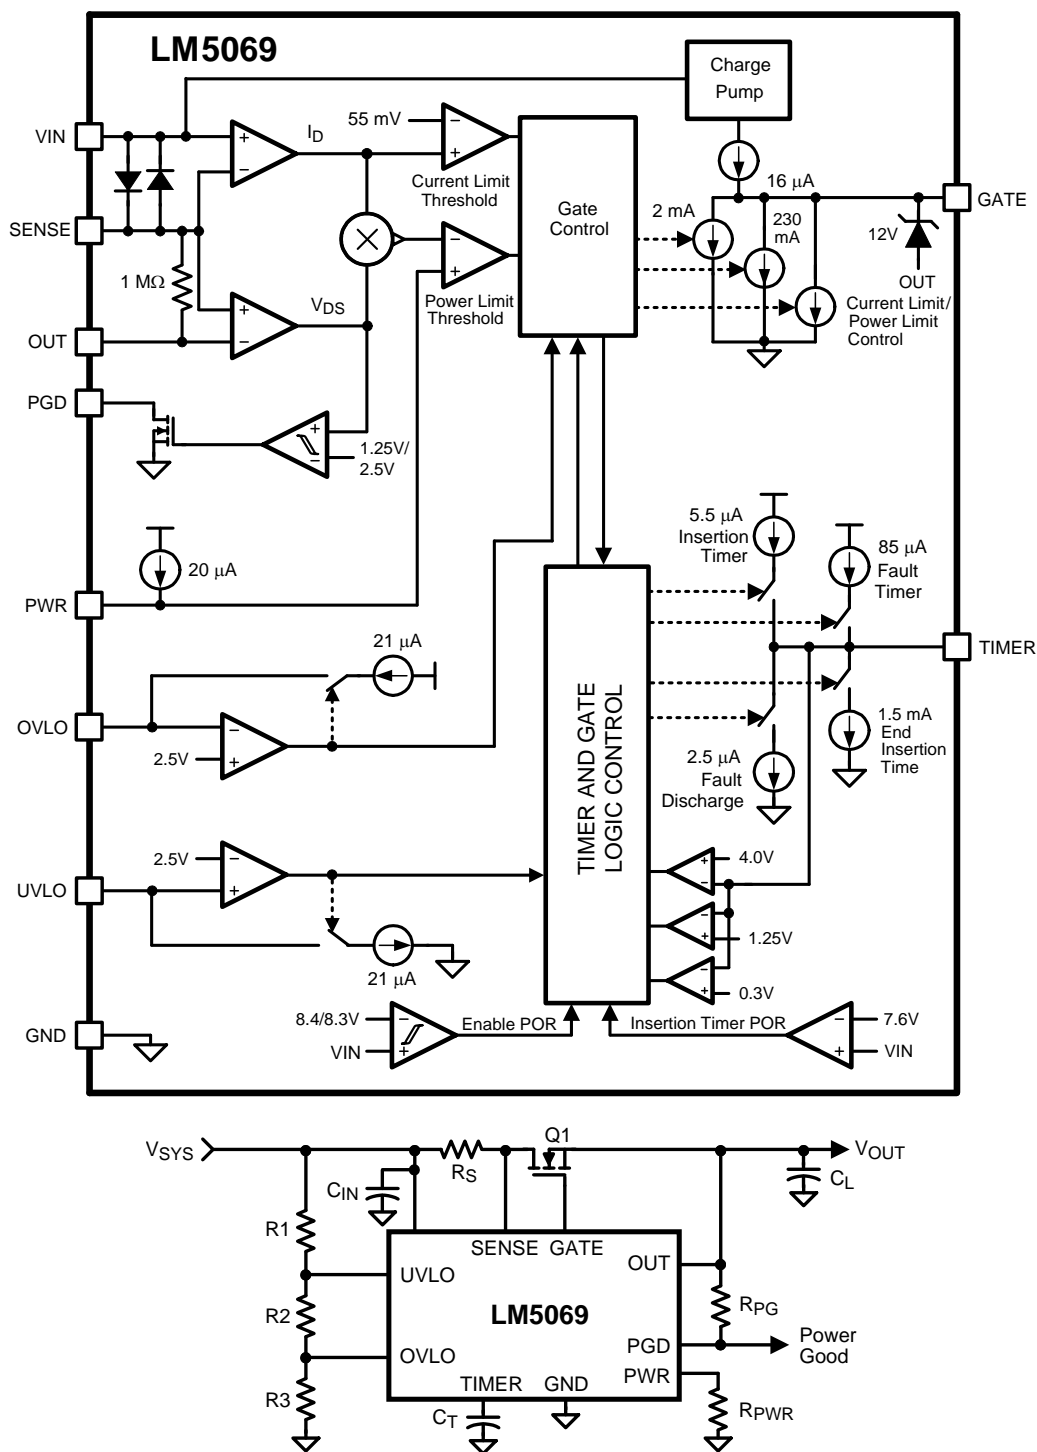
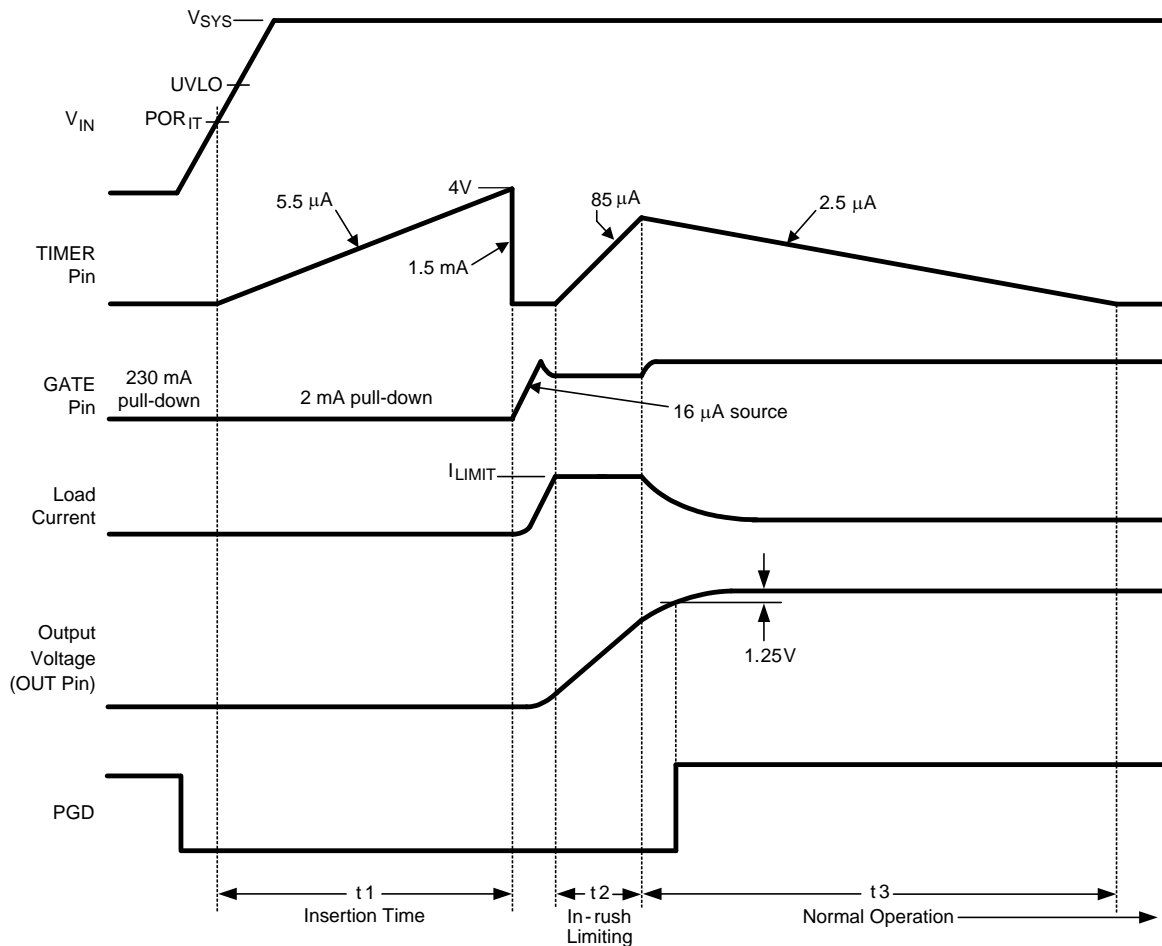

Figure 22. Basic Application Circuit
Figure 24. Power Up Sequence (Current Limit only)
The VIN operating range of the LM5069 is +9V to +80V, with a transient capability to +100V. Referring to the Block Diagram and Figure 22 and Figure 24, as the voltage at VIN initially increases, the external N-channel MOSFET (Q1) is held off by an internal 230 mA pull-down current at the GATE pin. The strong pull-down current at the GATE pin prevents an inadvertent turn-on as the MOSFET's gate-to-drain (Miller) capacitance is charged. Additionally, the TIMER pin is initially held at ground. When the VIN voltage reaches the POR_{IT} threshold (7.6V) the insertion time begins. During the insertion time, the capacitor at the TIMER pin (C_T) is charged by a 5.5 μA current source, and Q1 is held off by a 2 mA pull-down current at the GATE pin regardless of the VIN voltage. The insertion time delay allows ringing and transients at VIN to settle before Q1 can be enabled. The insertion time ends when the TIMER pin voltage reaches 4.0V. C_T is then quickly discharged by an internal 1.5 mA pull-down current. After the insertion time, the LM5069 control circuitry is enabled when VIN reaches the POR_{EN} threshold (8.4V). The GATE pin then switches on Q1 when V_{SYS} exceeds the UVLO threshold (UVLO pin $>2.5V$). If V_{SYS} is above the UVLO threshold at the end of the insertion time, Q1 switches on at that time. The GATE pin charge pump sources 16 μA to charge Q1's gate capacitance. The maximum gate-to-source voltage of Q1 is limited by an internal 12V zener diode.
As the voltage at the OUT pin increases, the LM5069 monitors the drain current and power dissipation of MOSFET Q1. In-rush current limiting and/or power limiting circuits actively control the current delivered to the load. During the in-rush limiting interval (t_2 in Figure 24) an internal 85 μA fault timer current source charges C_T . If Q1's power dissipation and the input current reduce below their respective limiting thresholds before the TIMER pin reaches 4.0V the 85 μA current source is switched off, and C_T is discharged by the internal 2.5 μA current sink (t_3 in Figure 24). The in-rush limiting interval is complete when the voltage at the OUT pin increases to within 1.25V of the input voltage (V_{SYS}), and the PGD pin switches high.
A charge pump provides internal bias voltage above the output voltage (OUT pin) to enhance the N-Channel MOSFET's gate. The gate-to-source voltage is limited by an internal 12V zener diode. During normal operating conditions (t3 in Figure 24) the gate of Q1 is held charged by an internal 16 µA current source to approximately 12V above OUT. If the maximum V_{GS} rating of Q1 is less than 12V, a lower voltage external zener diode must be added between the GATE and OUT pins. The external zener diode must have a forward current rating of at least 250 mA.
During the insertion time (t1 in Figure 24) the GATE pin is held low by a 2 mA pull-down current. This maintains Q1 in the off-state until the end of t1, regardless of the voltage at VIN or UVLO.
Following the insertion time, during t2 in Figure 24, the gate voltage of Q1 is modulated to keep the current or power dissipation level from exceeding the programmed levels. While in the current or power limiting mode the TIMER pin capacitor is charging. If the current and power limiting cease before the TIMER pin reaches 4V the TIMER pin capacitor then discharges, and the circuit enters normal operation.
The series pass MOSFET (Q1) is enabled when the input supply voltage (V_{SYS}) is within the operating range defined by the programmable under-voltage lockout (UVLO) and over-voltage lock-out (OVLO) levels. Typically the UVLO level at V_{SYS} is set with a resistor divider (R1-R3) as shown in Figure 22. When V_{SYS} is below the UVLO level, the internal 21 μA current source at UVLO is enabled, the current source at OVLO is off, and Q1 is held off by the 2 mA pull-down current at the GATE pin. As V_{SYS} is increased, raising the voltage at UVLO above
2.5V, the 21 μ A current source at UVLO is switched off, increasing the voltage at UVLO, providing hysteresis for this threshold. With the UVLO pin above 2.5V, Q1 is switched on by the 16 μ A current source at the GATE pin if the insertion time delay has expired (Figure 24). See the Applications Section for a procedure to calculate the values of the threshold setting resistors (R1-R3). The minimum possible UVLO level at V_{SYS} can be set by connecting the UVLO pin to VIN. In this case Q1 is enabled when the VIN voltage reaches the POR_{EN} threshold.
APPLICATION INFORMATION (REFER TO FIGURE 22)
A) Insertion Delay - Upon applying the system voltage (V_{SYS}) to the circuit, the external MOSFET (Q1) is held off during the insertion time (t_1 in Figure 24) to allow ringing and transients at V_{SYS} to settle. Since each backplane's response to a circuit card plug-in is unique, the worst case settling time must be determined for each application. The insertion time starts when V_{IN} reaches the POR_{IT} threshold, at which time the internal 5.5 μA current source charges C_T from 0V to 4.0V. The required capacitor value is calculated from: